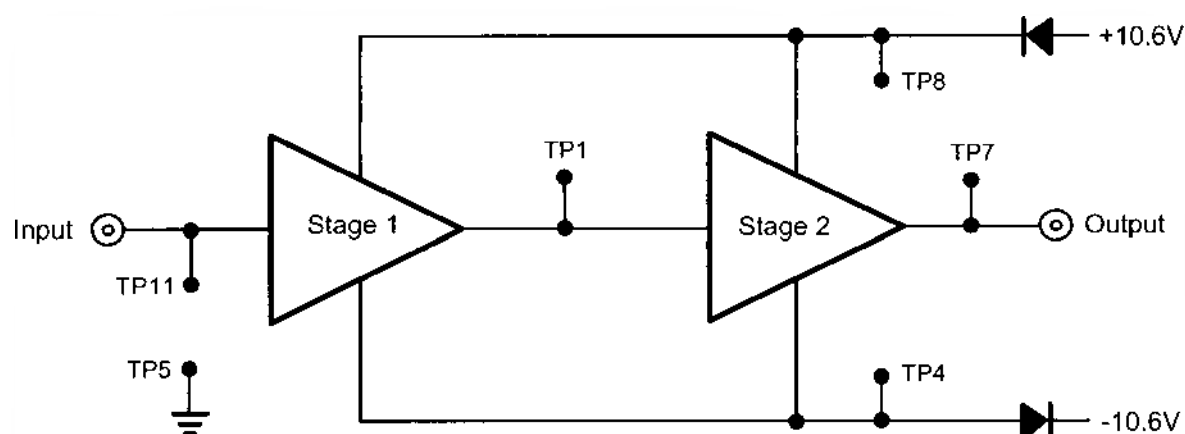

Figure 1
For this activity you will be working with a cascaded amplifier that has already been made for you and consists of two individual amplifier stages. Each amplifier stage is made from an amplifier inside an integrated circuit (IC). For now, you don't need to know how these ICs work. However, you do need to understand what the circuit is doing at the block diagram level. Figure 1 shows this.